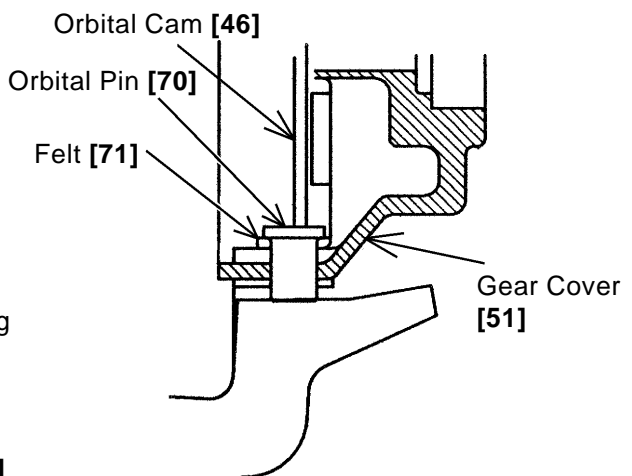

Fig. 15
- (4) During reassembly, be very careful not to forget to install the Felt [71] at the lower portion of the Orbital Cam [46], as shown in Fig. 15.